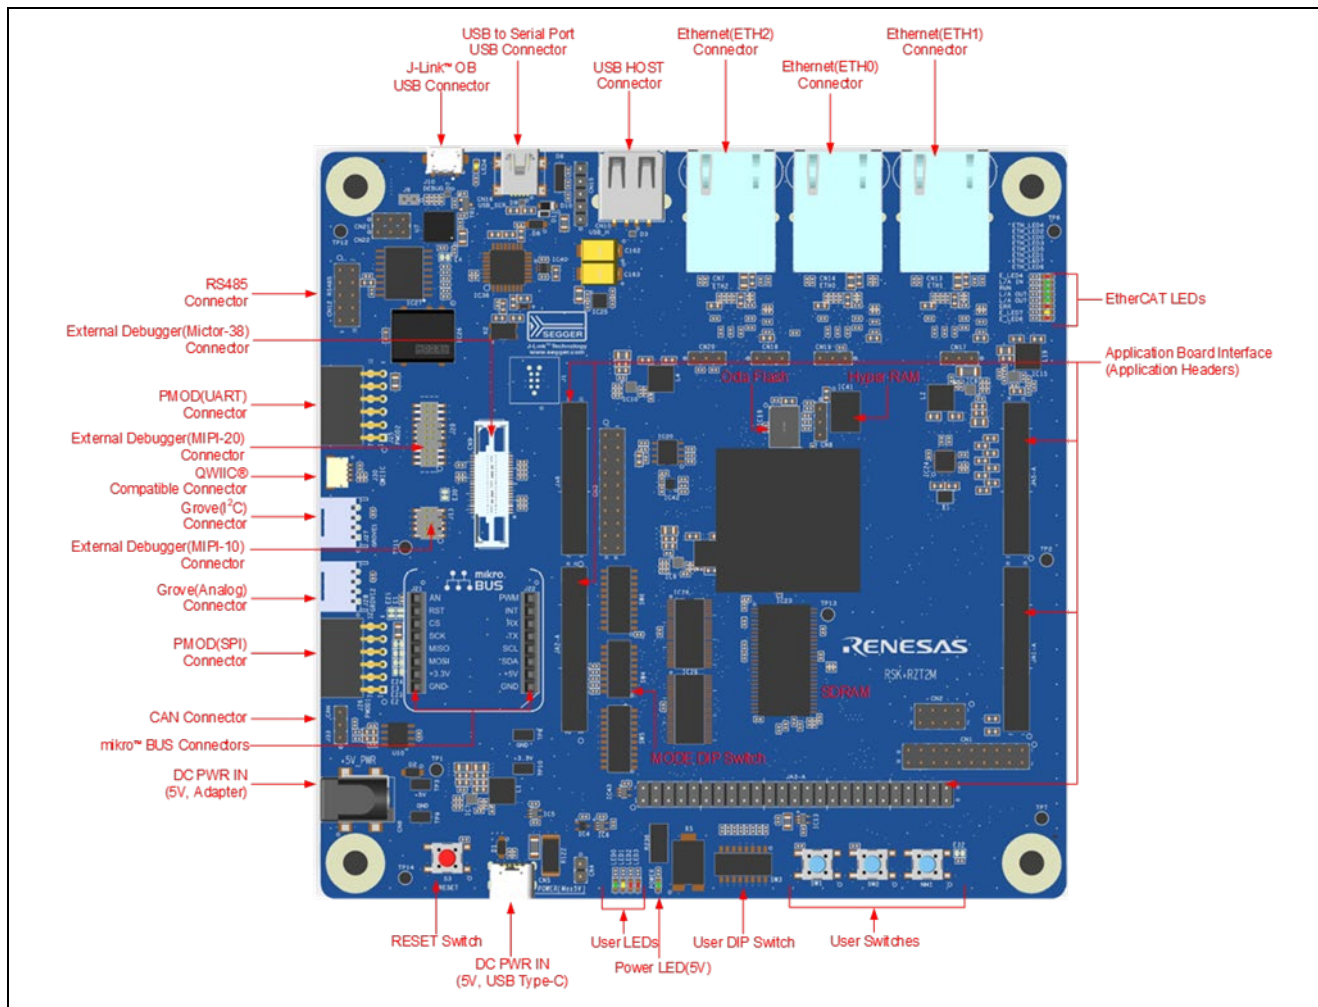

Figure 3.1 RZ/T2M, RZ/T2ME RSK board layout
3. Connect the Ethernet LAN cable to "ETH0" or "ETH1" on the RZ/T2M or RZ/T2ME RSK board, as shown in Figure 3.1.